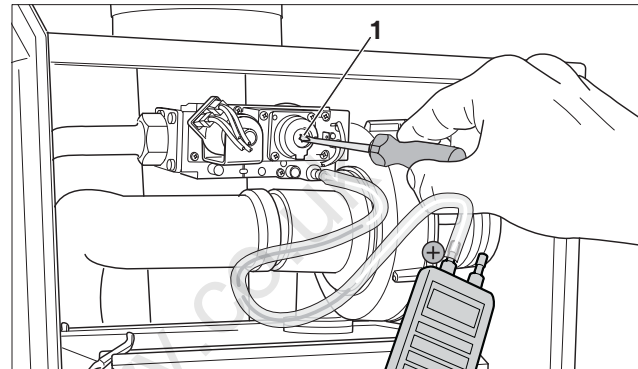

fig. 96 Adjusting the gas/air ratio
- If the gas/air ratio is incorrect, it must be adjusted on the set screw (Torx 40 H) (fig. 96, **item 1**). The set screw is located behind the screw-on cover (Torx 40 H).